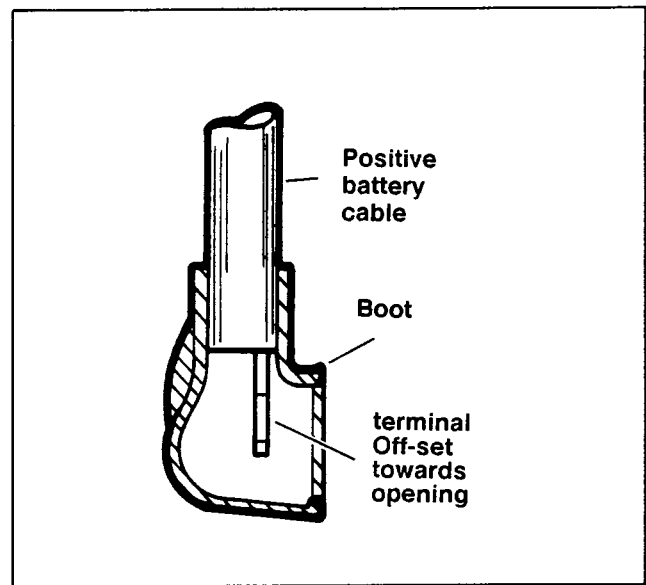

Figure 1. Boot mounting
6. See Figure 1. Using the new cable assembly supplied in the kit, install boot over starter motor end.